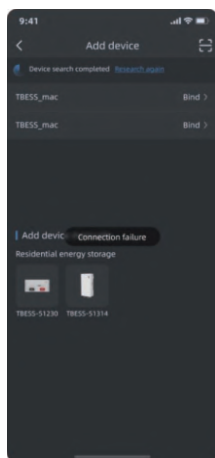

Figure 3
3) Figure 3: Add again after restarting the device.